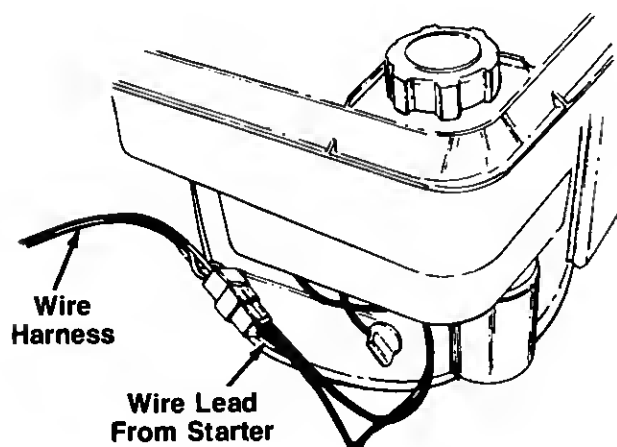

FIGURE 7.
2. Plug the end of the wire lead coming from the starter on the engine into the plug on the end of the wire harness. See figure 7.